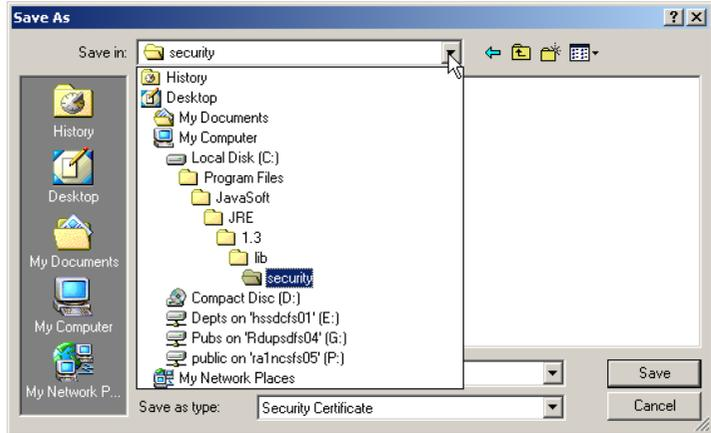

Figure 26. Save Menu
- Specify the `lib\security` subdirectory in your Java Plug-in program folder for saving the certificate; then select **Save** (see Figure 26). The file begins downloading.